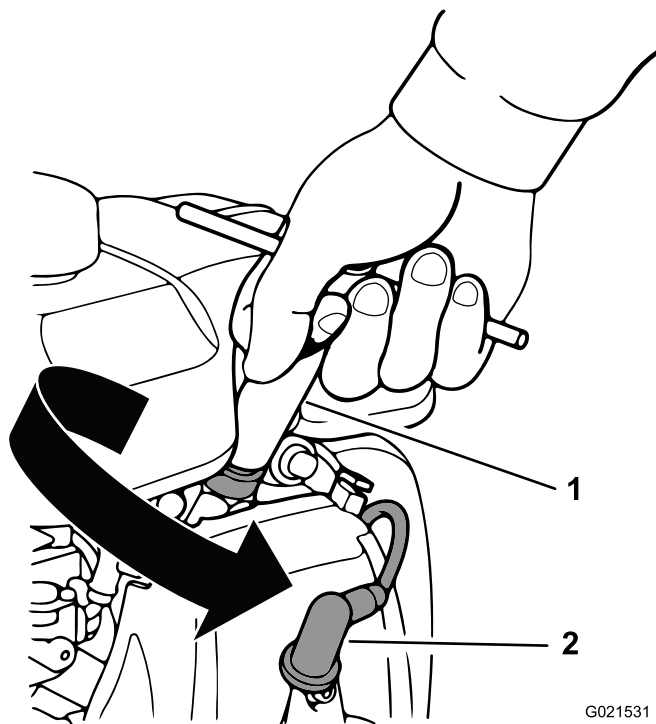

Figure 26
5. Rotate the spark plug counterclockwise using a 5/8 inch (16 mm) spark-plug wrench to remove the plug and the sealing washer (Figure 26).
2. Rotate the spark plug clockwise using a 5/8 inch (16 mm) spark-plug wrench until the plug and sealing washer are seated (Figure 26).
4. Push the spark-plug wire onto the terminal of the spark plug (Figure 26).